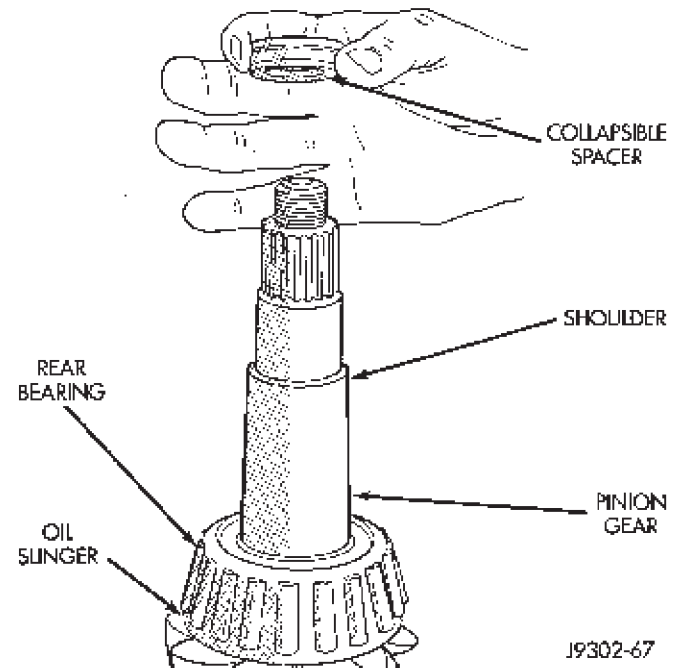

Fig. 28 Collapsible Preload Spacer
- (4) Install a new collapsible preload spacer on pinion shaft and install pinion gear in housing (Fig. 28).